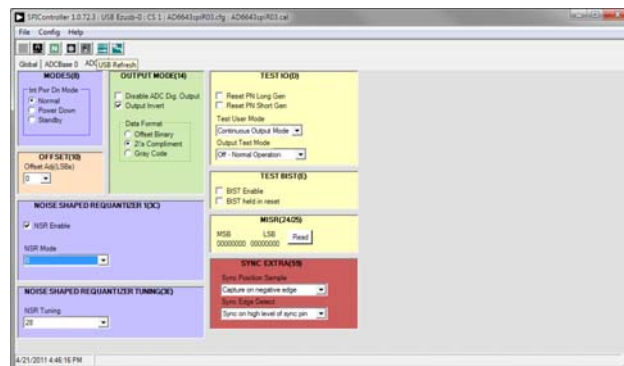

Figure 14. SPI Controller, Example ADC A Tab—NSR Settings for the AD6643
- If using the noise shaping requantizer (NSR) feature of the AD6643, the settings in the ADC A and/or ADC B pages must be changed (see Figure 14). The **NSR Enable** checkbox must be selected under the **NOISE SHAPED REQUANTIZER 1(3C)** section. This enables the circuitry in the AD6643. To select the bandwidth mode, select 0 for 22% and 1 for 33% under the **NSR Mode** drop-down box in the **NOISE SHAPED REQUANTIZER 1(3C)** section. Upon selecting the bandwidth mode, select the desired tuning word in the **NSR Tuning** drop-down box under the **NOISE SHAPED REQUANTIZER TUNING(3E)** section.